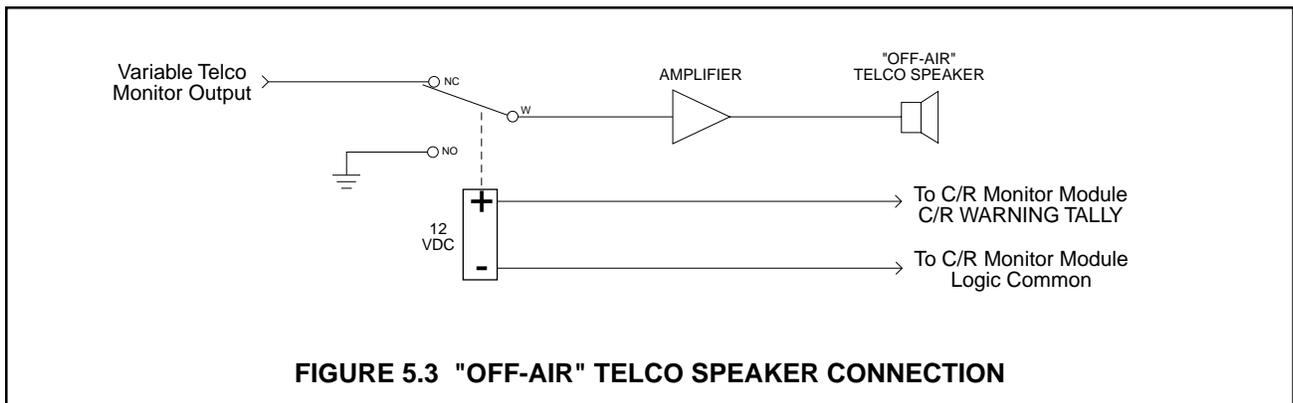

FIGURE 5.3 "OFF-AIR" TELCO SPEAKER CONNECTION
1. On Stereo Line Input Modules assigned as Telco inputs, set internal option switch S7 to enable the module Direct Output to be continuous. This will cause the audio signal to be sent to the Telco Mix Module regardless of the ON/OFF status of the input module, thereby allowing the connection of the intercom speaker via the caller-only Telco Mix Module Monitor Output, as shown in Figure 5.3.
Callers can be monitored during “off-air” Telco operations by means of the console CUE system, or an external speaker connected to the Telco Mix Module’s variable Telco Monitor Output. When using the console CUE system, depress the CUE button(s) on the module(s) being used as the Telco input(s) to route caller audio to the console operator’s headphones (the CUE buttons will reset when the module is turned ON). When connecting an external speaker, use a relay driven by the Control Room Warning Tally, so that the speaker will mute whenever the Control Room is muted, as shown in Figure 5.3.